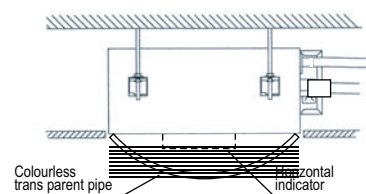

Fig.5-6
- Use the transparent hose filled with water to check the level of the main body from the four sides or diagonal line direction, the level indicator also can check the level from four sides of the main body. (Refer to Fig.5-6)